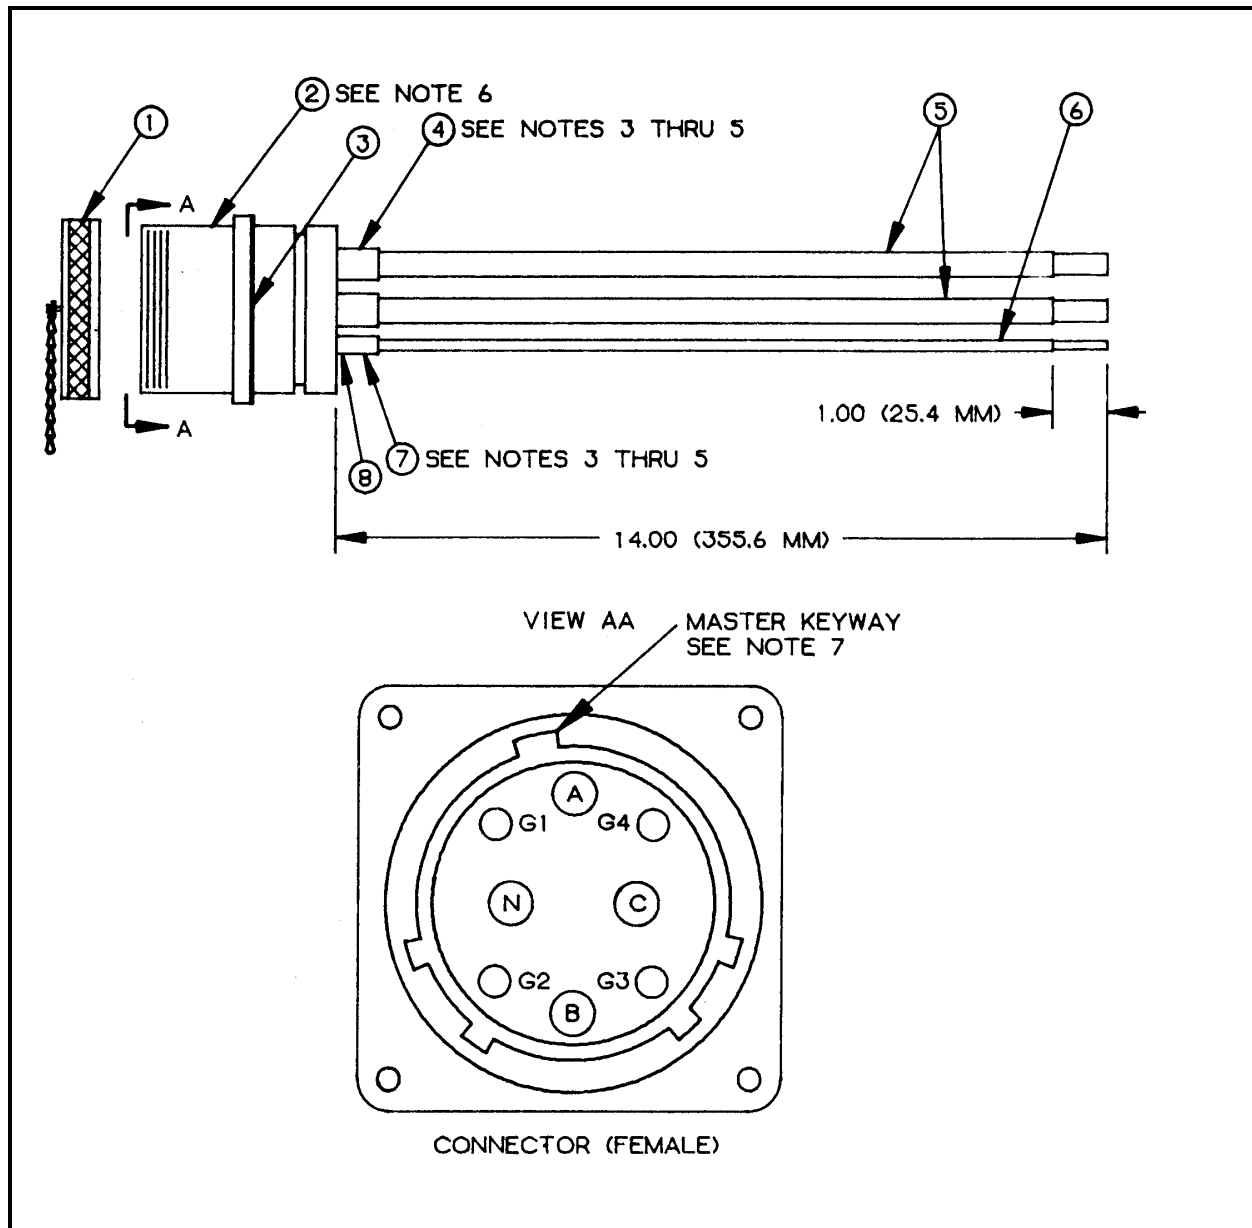

Figure F-7. M200/100, 100-Amp, Output Connector Assemblies.
Component Legend for Figure F-7
- c. Electrical connector (Figure F-7, Item 2) is furnished with the following: